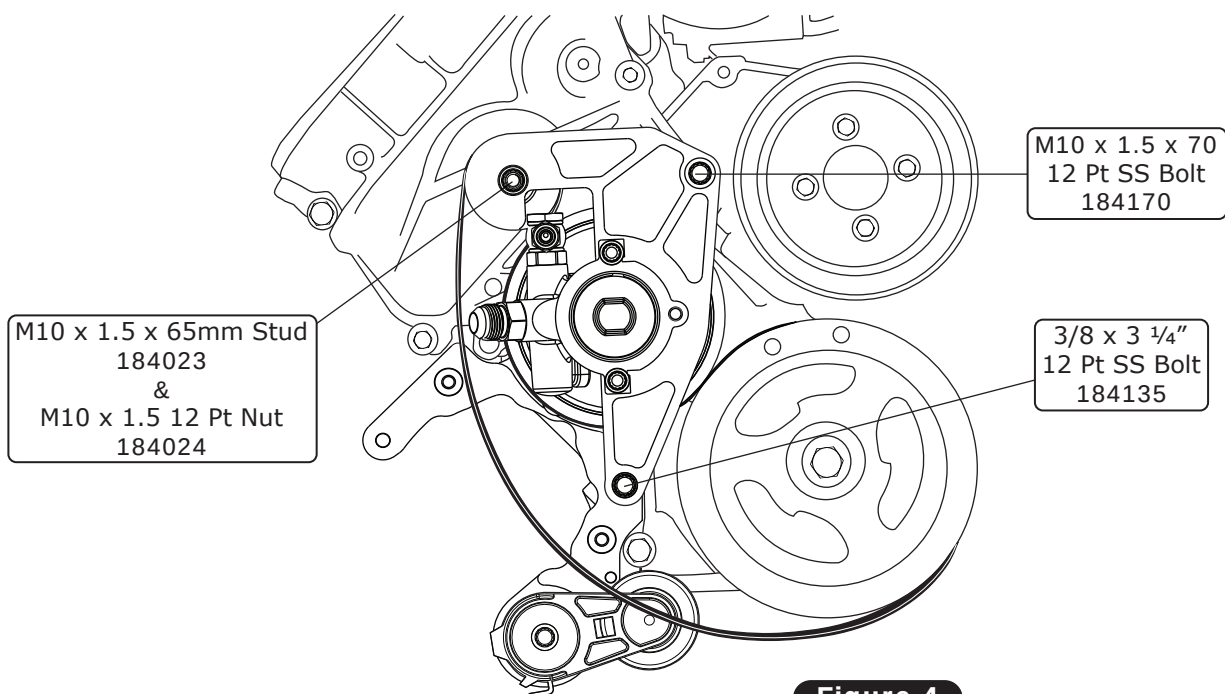

Figure 4
5. Install the power steering pump assembly with belt onto the engine using a M10 x 1.5 x 65mm stud, a M10 x 1.5 12 pt nut, a M10 x 1.5 x 70 12 pt SS bolt, and a 3/8-16 x 3 1/4" 12 pt SS bolt. Torque bolts to 35 ft-lbs (See Figure 4, below).